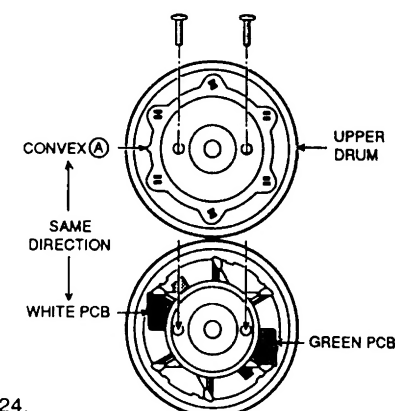

Fig 24.
- 1: Attach the UPPER DRUM to the LOWER DRUM ROTOR, so that the upper drum convex (A) and lower drum rotor's white PCB line up, as shown in Fig 24.